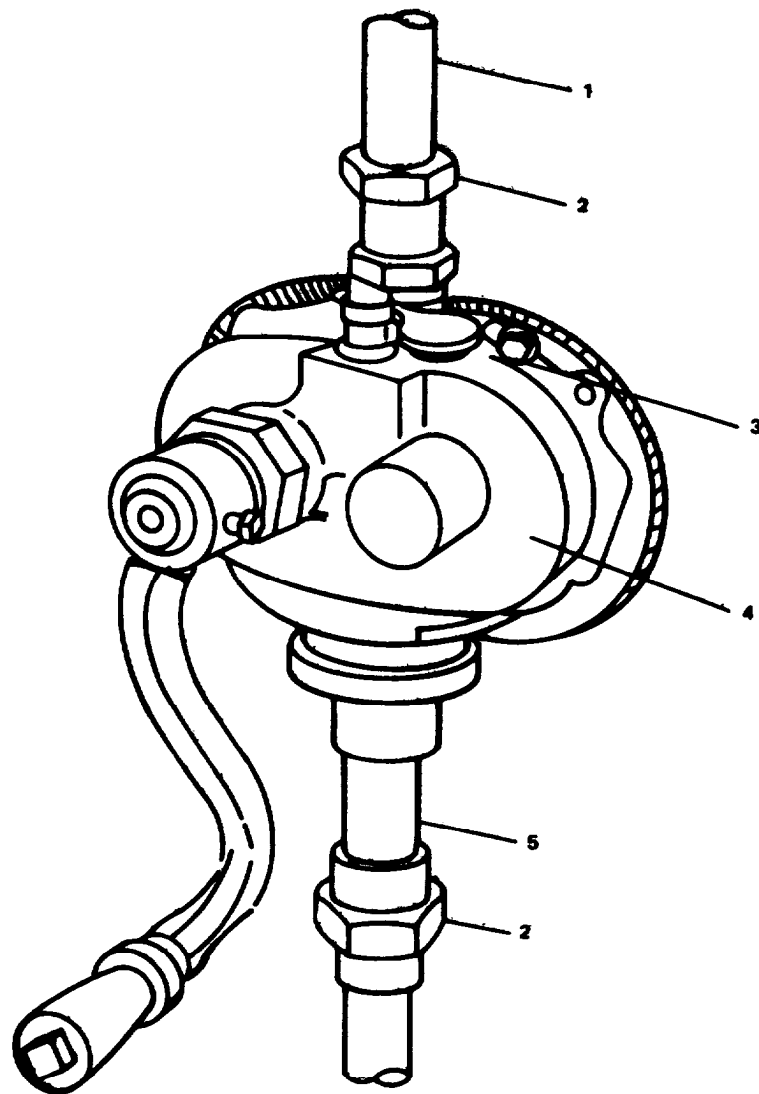

FIGURE 2-264. Repair Rotary Hand Pump, (Typical) .
**2-332. Repair Rotary Rand Pump. (FIGURE 2-264)**